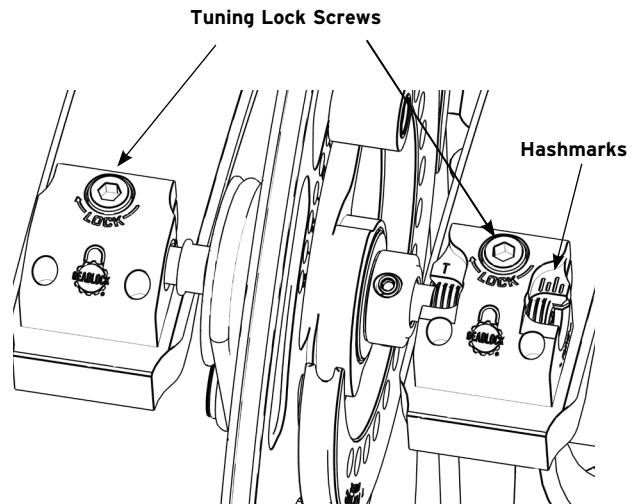

Figure 4: DeadLock Adjustment
To adjust the DeadLock cam system (see Figure 4):
2. Following the steps above for making adjustments to the position of your Deadlock cam, turn the tuning screw such that the tip of the axle is aligned with the longest hashmark. See figure 4.